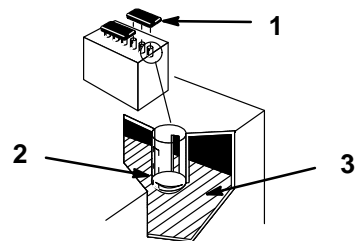

Figure 36
1. With the engine off, open the covers to see into the cells. The electrolyte must be up to the lower part of the tube (Fig. 36). Do not allow the electrolyte to get below the plates. (Fig. 36).
2. Lift off the filler caps (Fig. 36).
3. Slowly pour distilled water into each battery cell until the level is up to the lower part of the tube (Fig. 36).